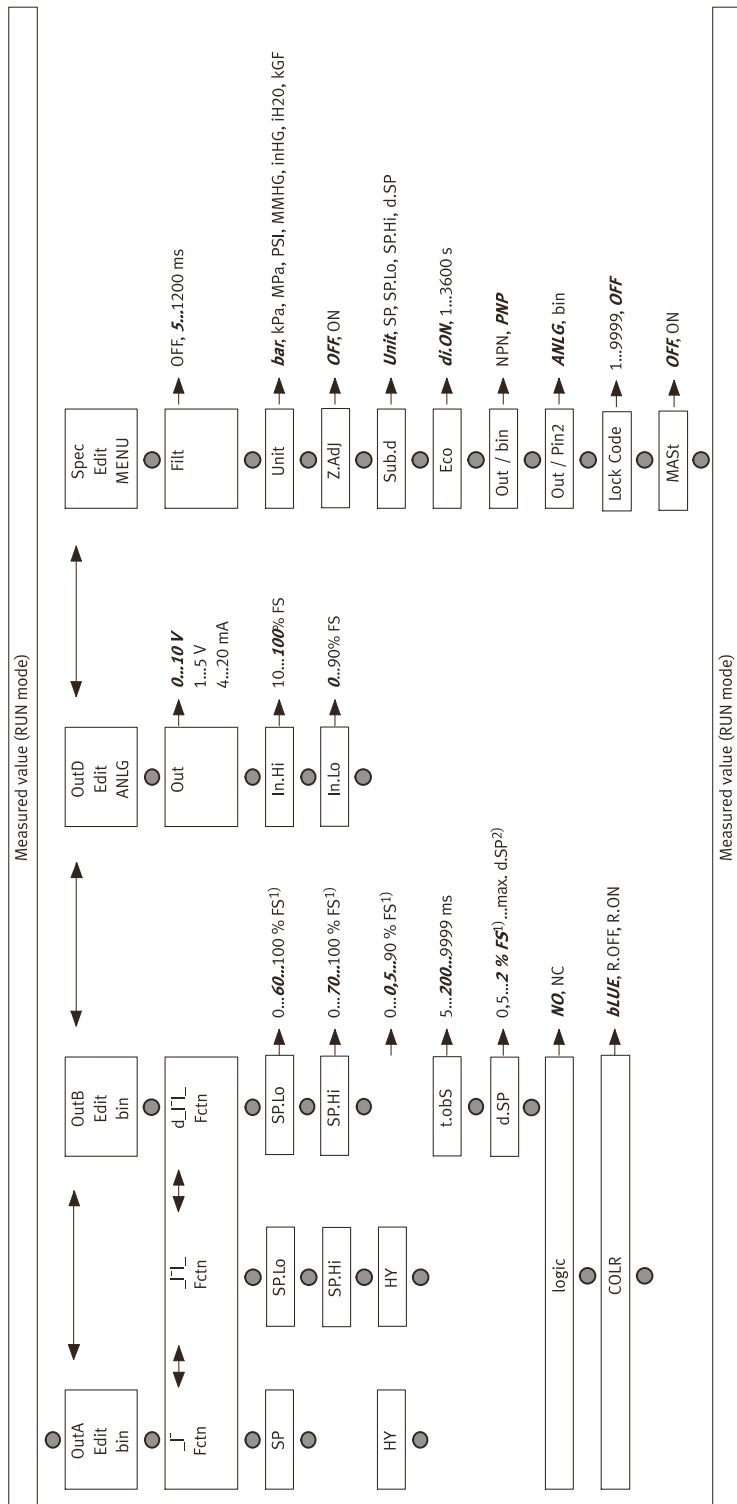

Fig. 7
The process is the same for configuring the switching outputs for OutA and OutB. In the following, the process is described using the switching output OutA. Menu structure → Fig.7
Legend for → Fig.7
- ↪ [Rsto PARM] appears. All parameters are reset to the factory settings → Fig.7